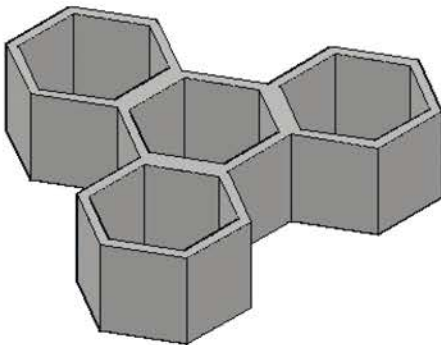

Fig. 9.42 Exercise 2
- Fig. 9.42 shows a 3D model constructed from four polysolids that have been formed into a union using the **Union** tool from the **Home/Modify** panel. The original polysolid was formed from a hexagon of edge length **30**. The original polysolid was of height **40** and **Width 5**. Construct the union.